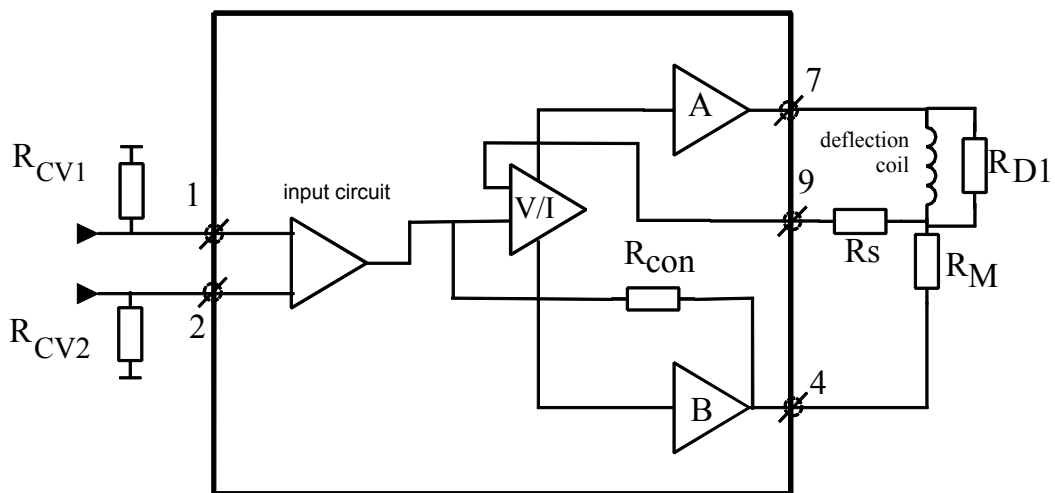

fig 4: Simplified block diagram of the vertical circuit.
Since the Input Stage (IS) is voltage driven, resistor R_{CV1} and R_{CV2} are used to convert the differential output current delivered by the driver circuit (See fig 4). But driver circuits, which deliver an output voltage can also be used, in that case resistor R_{CV1} and R_{CV2} are not necessary.